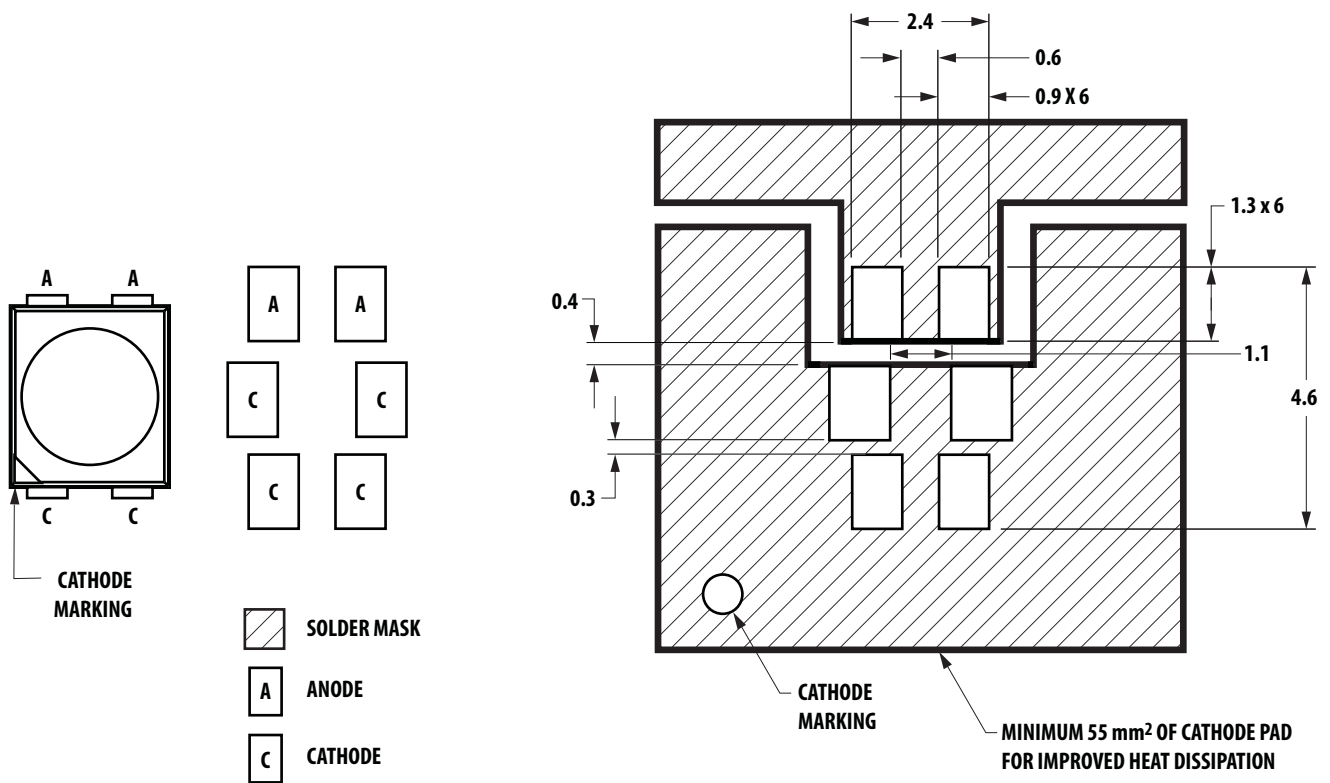

Figure 11. Recommended Soldering Pad Pattern
2. Lead Polarity as shown in Figure 11.